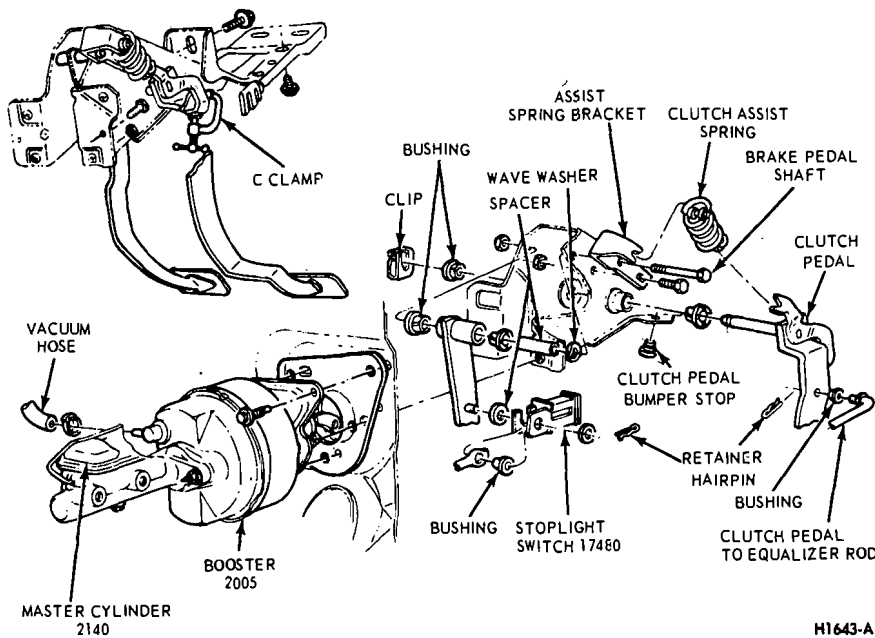

FIG. 12—Master Cylinder Installation—Power Brake—Mustang and Cougar
4. Working inside the vehicle, secure the clutch pedal against the bumper stop with a small C-clamp as shown in Fig. 12.
8. Remove the screw retaining the pedal support bracket to the top inner cowl bracket (Fig. 12).